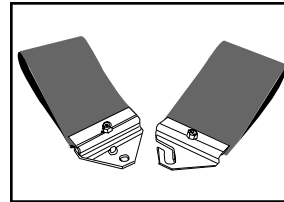

Fig 17 ATS series hose support assembly
- Attach a hose support assembly to each hose. Hose supports should be positioned on the exhaust hose to allow the hose to hang off of the floor at a level that is easily accessible to the user but out of the way. See Figs. 17 and 18.